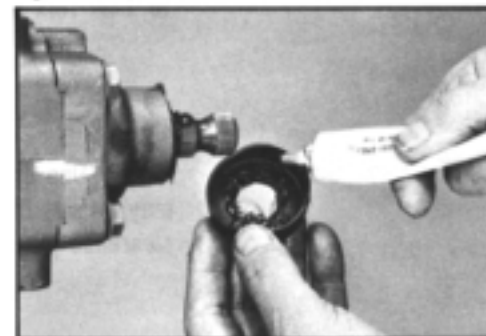

Figure 163
56. Add the special grease to cupped side of protector seal (1) and assemble seal over worm shaft (23) and upper cover (7). SEE FIGURE 163.